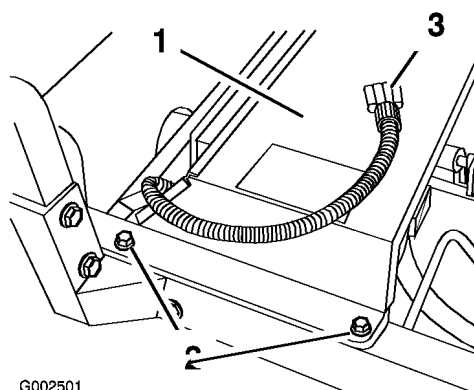

Figure 16
2. Install the radiator cover assembly over the vehicle's radiator (Figure 16).